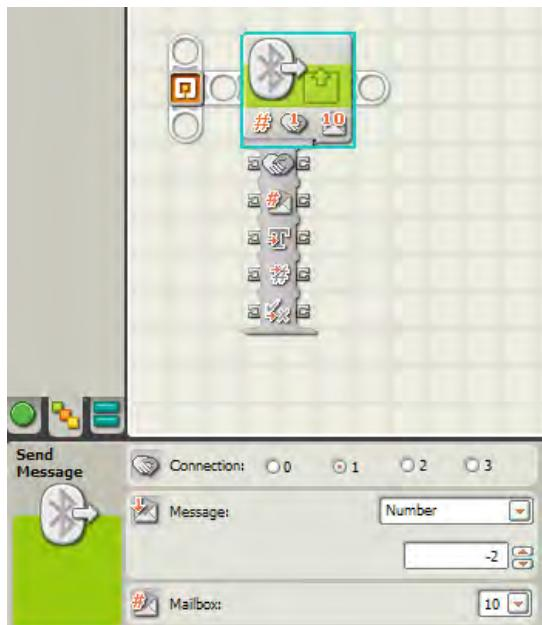

Figure 25-6. The *SEND MESSAGE* block and its configuration panel
The SEND MESSAGE block is shown in Figure 25-6 along with its configuration panel.
■ **Note** As with most of the advanced NXT blocks, the *SEND MESSAGE* block can be configured to receive Text, Number, or Logic values using data wires, as shown in Figure 25-6. Note that the Connection data plug is a value between 0 and 3 and is used to identify the master or slave NXT device. The master device is always configured to use the value 0, and up to three additional NXT bricks can be linked via Bluetooth, with each being identified by 1, 2, or 3. Earlier in the chapter you saw how the *BLUETOOTH CONNECTION* block is used to select a communication port—1, 2, or 3—to assign to a brick. When sending and receiving data between bricks, you'll want to pay attention to the port configured in the *SEND MESSAGE* and *RECEIVE MESSAGE* blocks so you get the proper data from the proper brick.